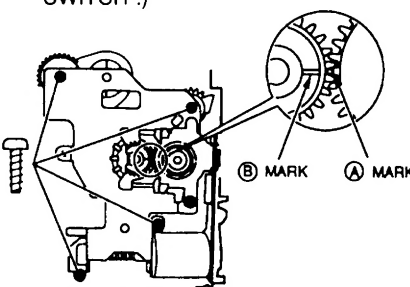

Fig 13.
- 1: Install the LOADING DRIVE BLOCK as shown in Fig 13. Align the (A) mark on the MODE SELECT SWITCH's gear with the (B) mark on the CAM SLIDER GEAR when installing. (Refer to "Installation of the MODE SELECT SWITCH".)